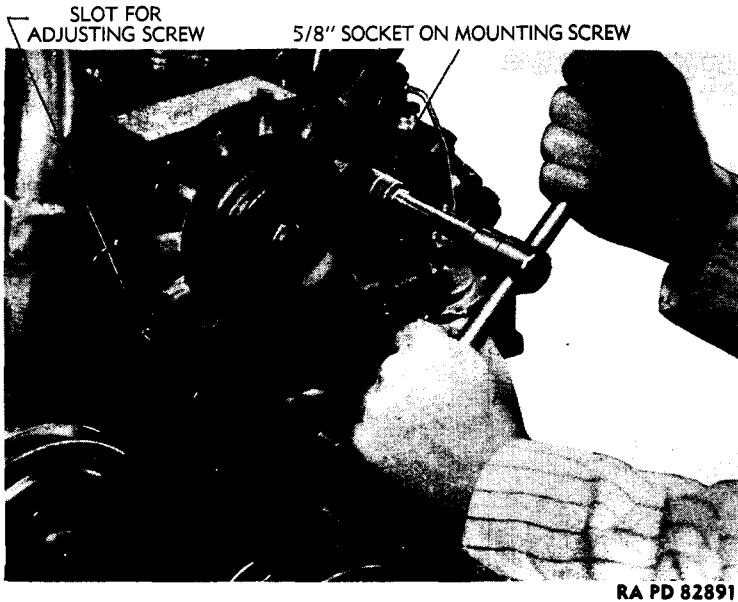

Figure 71 – Removing Generator
a. **Removal.** Turn master switch to "OFF" position. Open engine compartment rear doors, and remove fan, belt, and bracket. Disconnect wires at generator filter or armature terminal and at generator field terminal. Loosen generator mounting screws and remove generator belt (fig. 71). Remove mounting screws and remove generator and filter assembly.